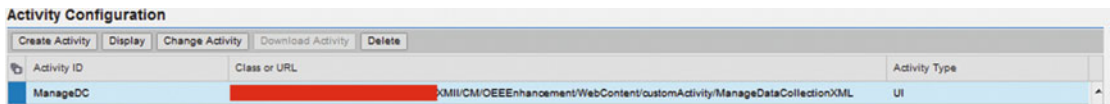

Figure 7-26. Custom activity configuration: UI type
9. Click on Save once again after coming out of this window. Refer to Figure 7-26.